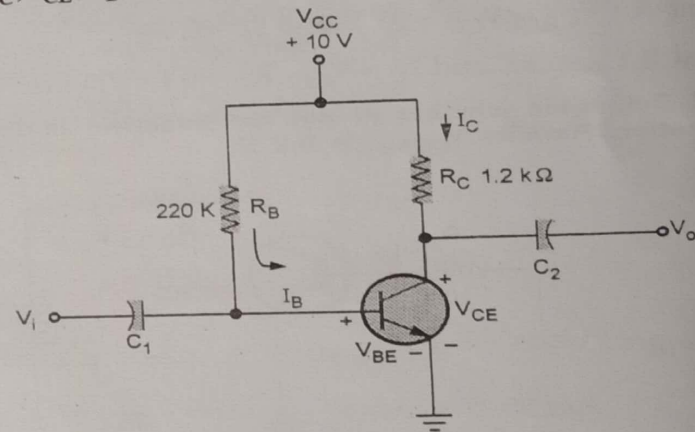

Fig. Q.51.1
Q.51 For the circuit shown in the Fig. Q.51.1. Calculate $I_B, I_C, V_{CE}, V_B, V_C$ and V_{BC} . Assume $V_{BE} = 0.7 \text{ V}$ and $\beta = 50$.